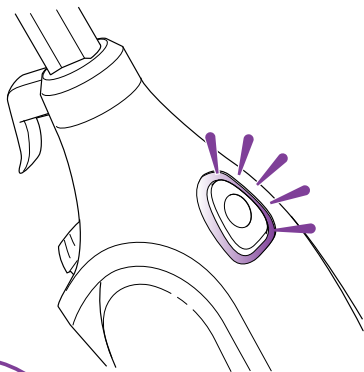

fig. 7
- 2 The **ON/STANDBY** switch will flash blue. If the light does not turn on, reference the troubleshooting section on page 12. (fig. 7)